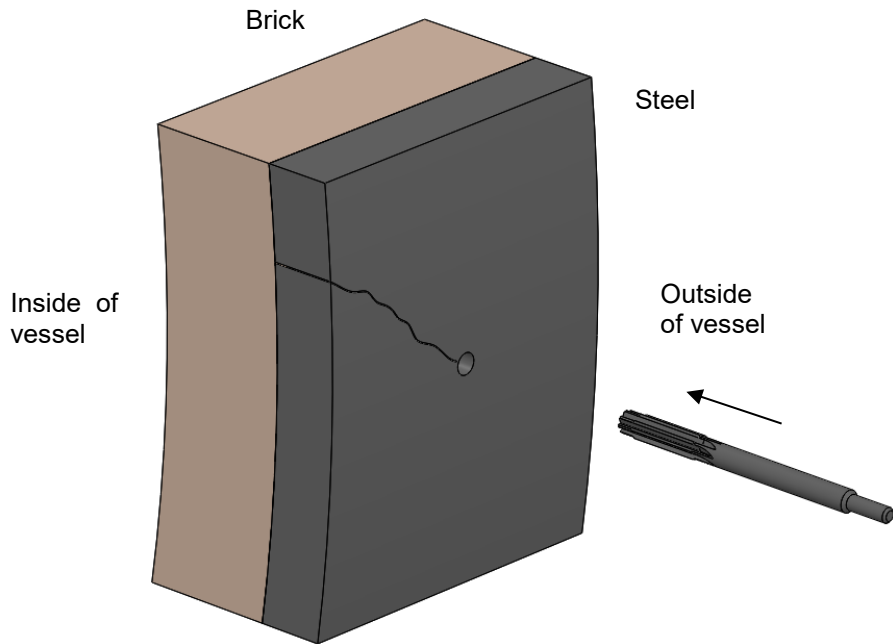

Figure 6.2-9
- i. The non-cutting pilot on the reamer is sized to fit the hole produced by the starting drill, as shown in Figure 6.2-9. This piloted reamer is essential for cutting a perfect circular hole for StopCrackEX. Do not skip usage of this Starting Reamer during the process.